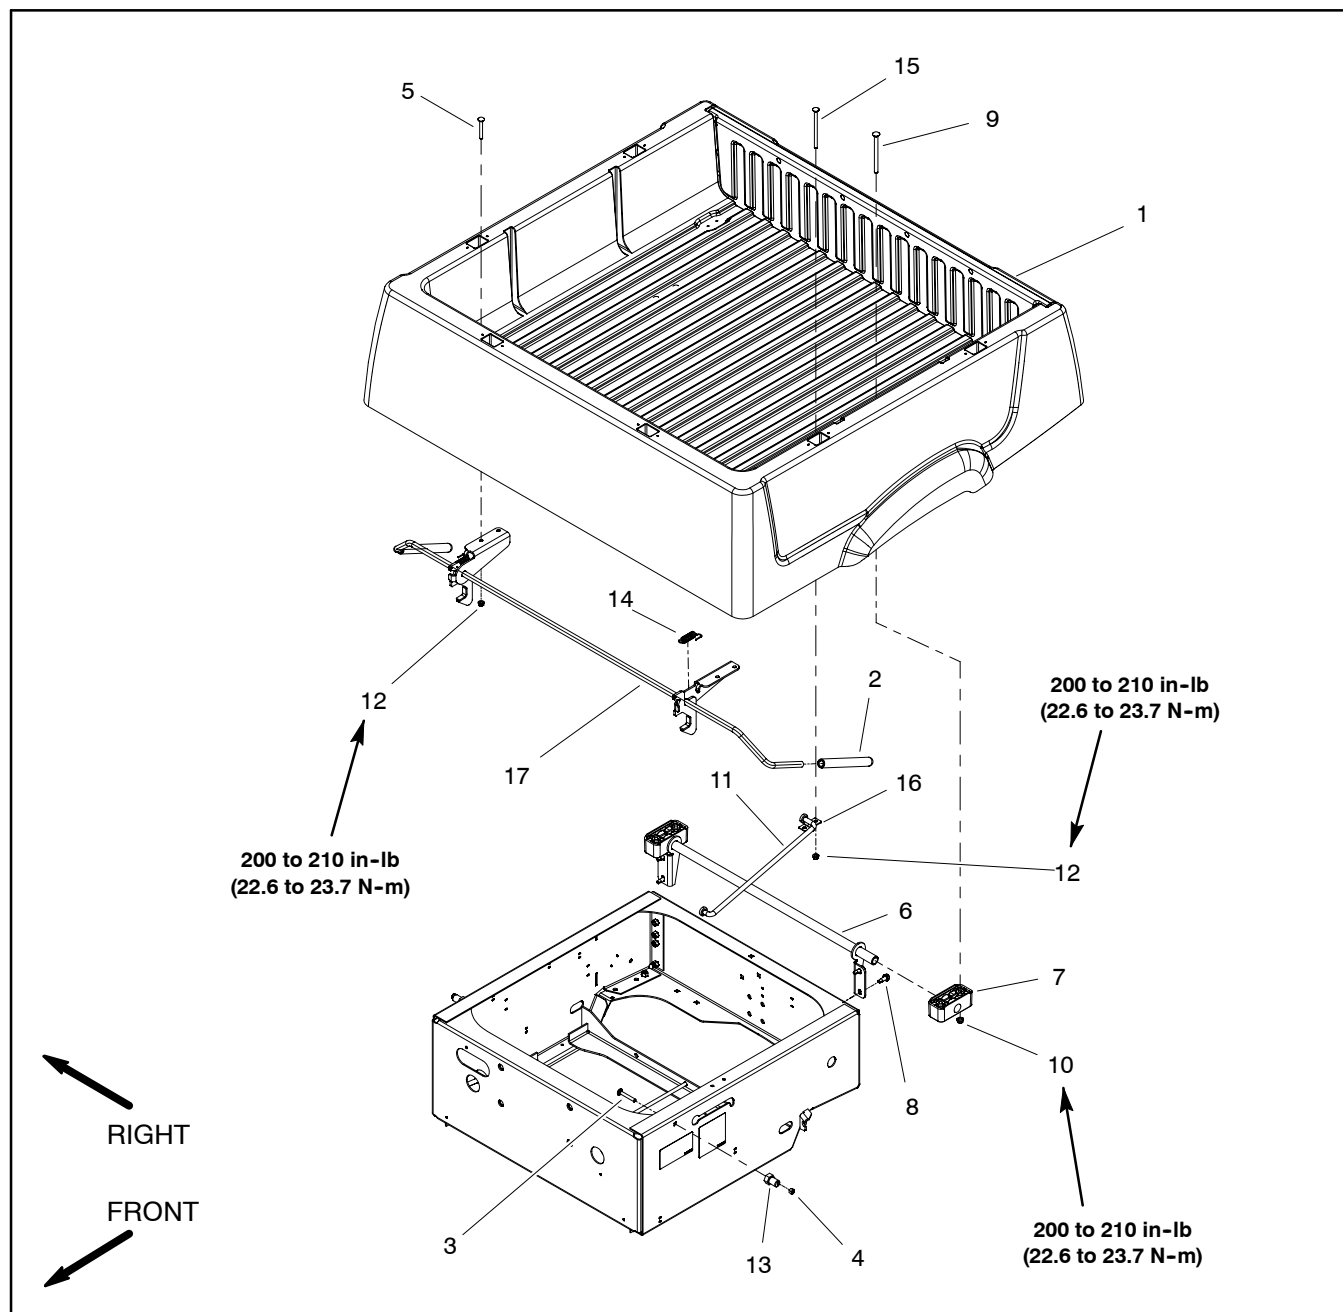

Figure 19
Removal (Fig. 19)
2. Disassemble cargo box as necessary using Figures 19 and 20 as guides.
Installation (Fig. 19)
1. Assemble cargo box using Figures 19 and 20 as guides.
- A. When installing cargo box, use torque specifications identified in Figure 19.
- B. Adjust latch pin (item 13 in Figure 19) so that cargo box is tight to frame when latched.